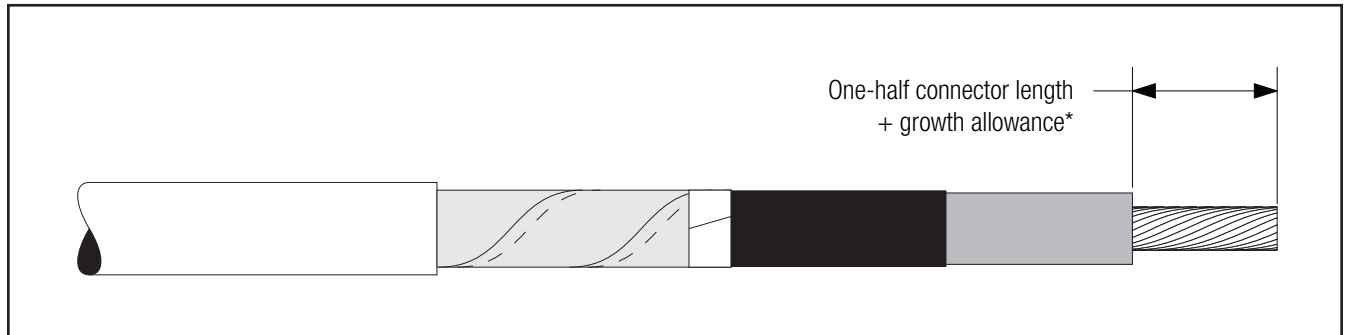

Figure 14
- 4.3 If using a crimp type connector, remove cable insulation for 1/2 connector length plus an allowance* for increases in connector length due to crimping. Insulation removal length shall not exceed 4 1/8" (105 mm) from conductor end. Do not install connector now (Figure 14).**